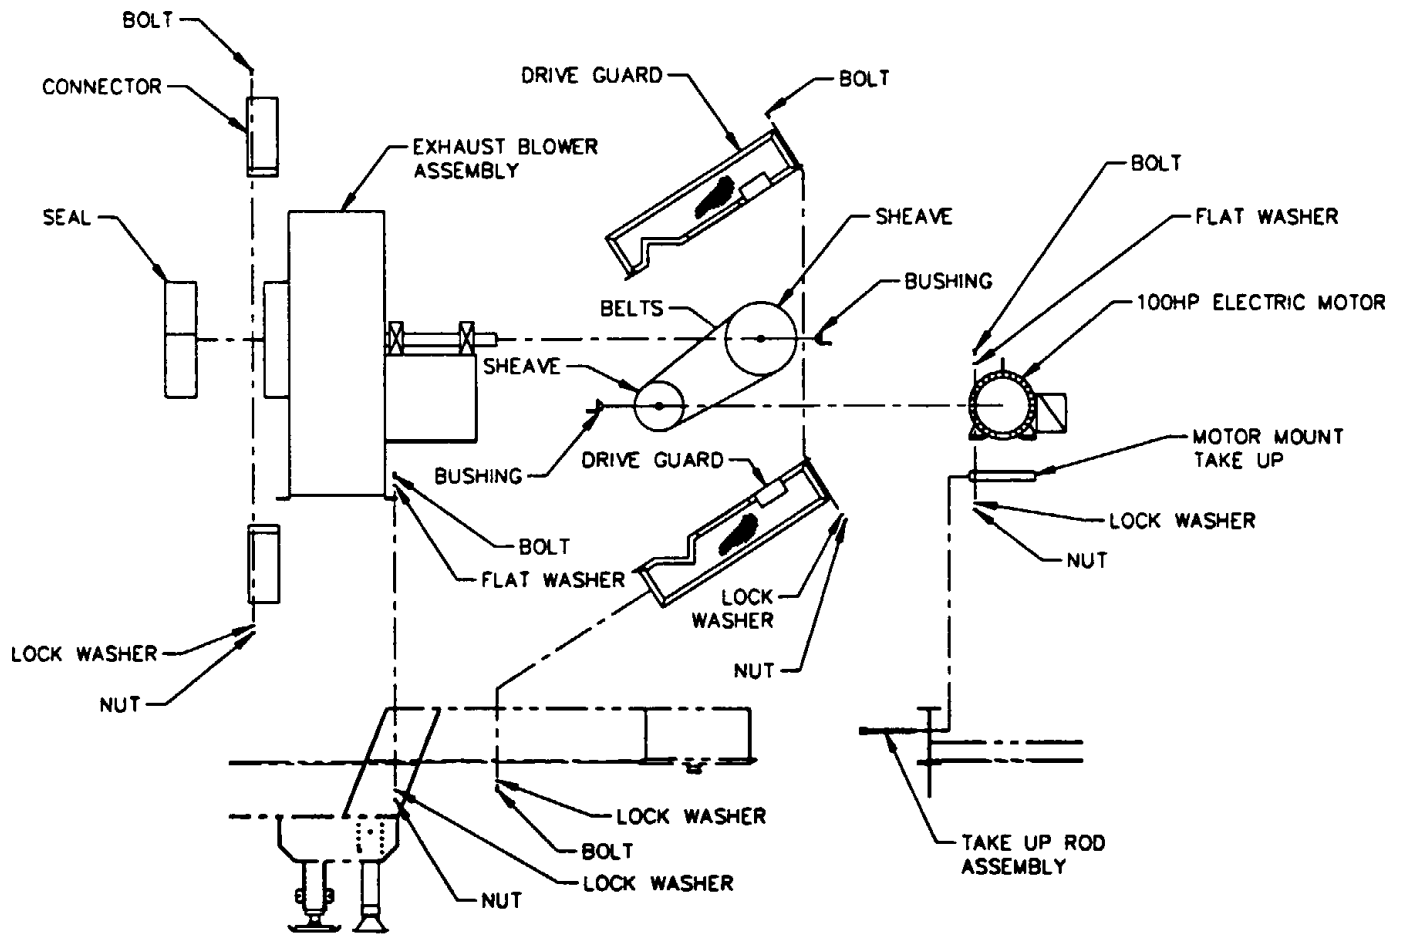

Figure 3-25 Exhaust Blower Drive
3-5-2 Exhaust Blower Drive Removal, Repair and Replacement. See figure 3-25.
4. Remove the connector and seal (shown on Figure 3-25) joining the exhaust blower to the baghouse outlet. The exhaust blower housing is in two halves, the upper and the lower. Remove the fasteners holding the upper half to the lower and remove the upper half.